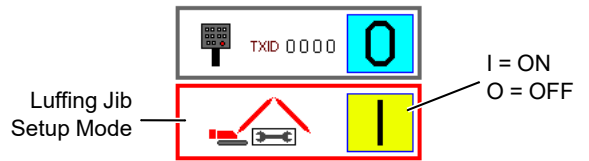

FIGURE 3-13
3. The screen shown in Figure 3-13 will appear.